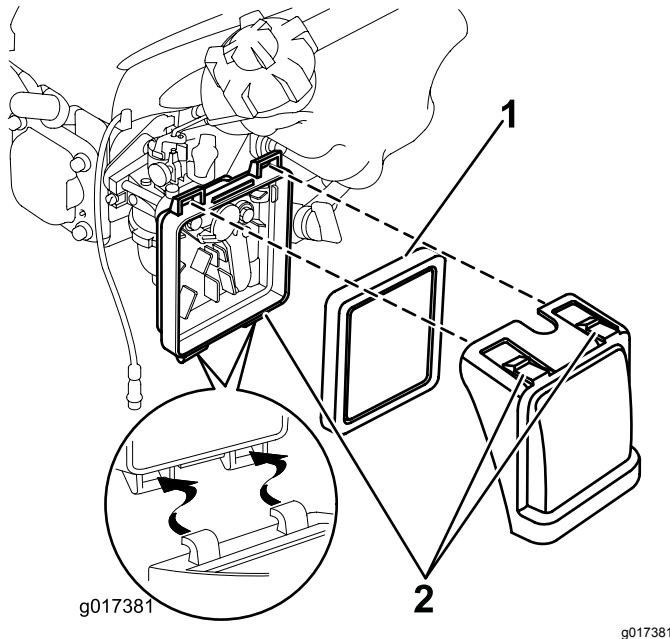

Figure 18
1. Press down on the latch tabs on top of the air-cleaner cover (Figure 18).
2. Open the cover (Figure 18).
3. Remove the filter (Figure 18).
6. Insert the filter into the air cleaner (Figure 18).
7. Install the cover (Figure 18).